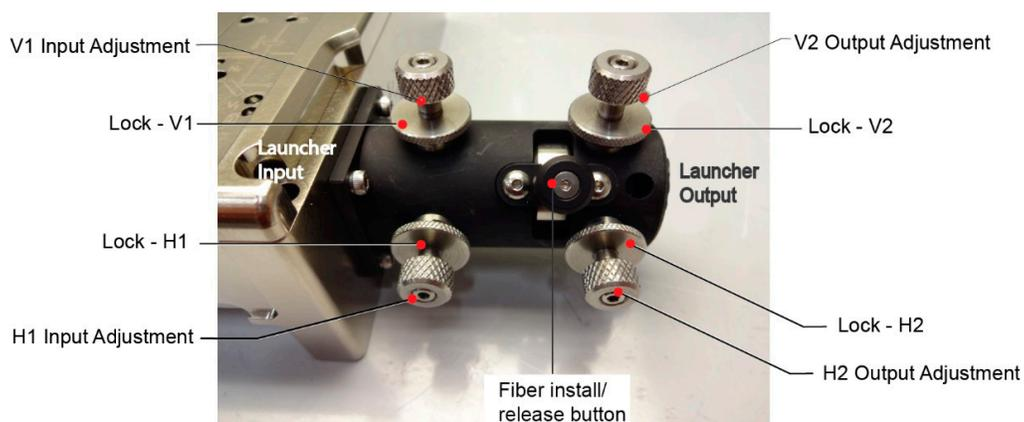

Figure 8-34. Launcher Input / Output Adjustment Locations
- a.) Turn the lock mechanisms counter-clockwise to loosen the adjustment knobs. Refer to reference Figure 8-34.